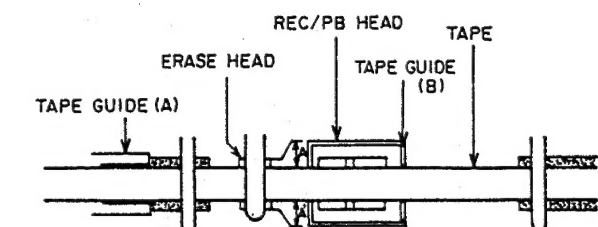

Fig. 4-5
- 2) Adjust the TAPE GUIDE (A) ADJUSTMENT ① NUT so that the both space (A and A') on the erase head are equal as shown in Fig. 4-5.
- 3) Similarly turn the REC/PB HEAD HEIGHT ADJUSTMENT ② and ③ SCREWS little by little so that the tape runs smoothly and no curl at the TAPE GUIDES (A) and (B).